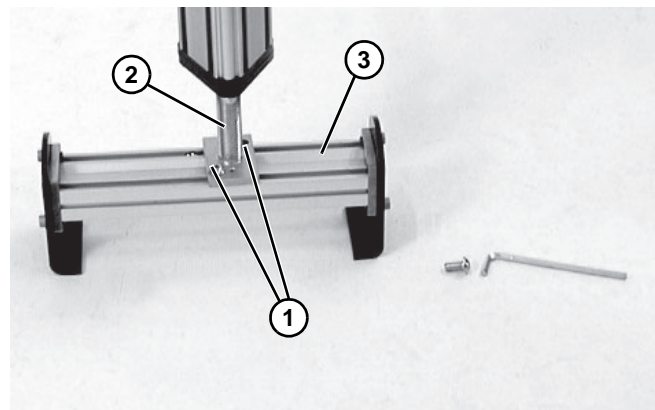

Figure 15
9. Align the screw holes (**Figure 15, item 1**) of the stand top screw end plate (**Figure 15, item 2**) with the hex nuts in the t-slots in the crossmember tube (**Figure 15, item 3**).